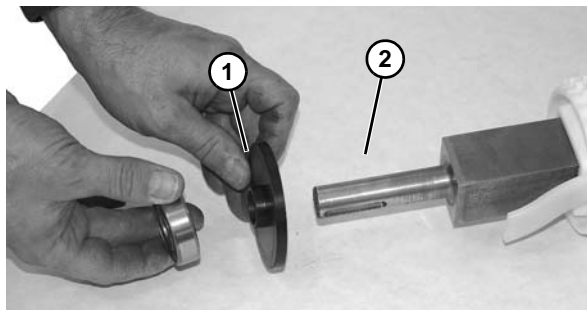

Figure 70
12. Remove washer (**Figure 70, item 1**), as shown, making note of flange area (**Figure 70, item 2**) of washer. Repeat on opposite side, if needed.